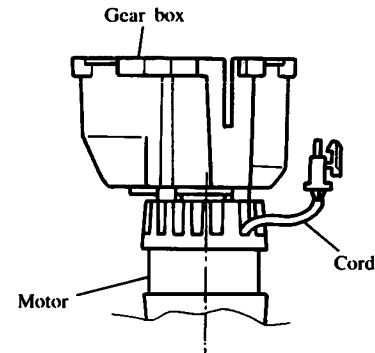

Fig. 51
- (1) Set the cord of the motor and the Gear box as illustrated in Fig. 51.